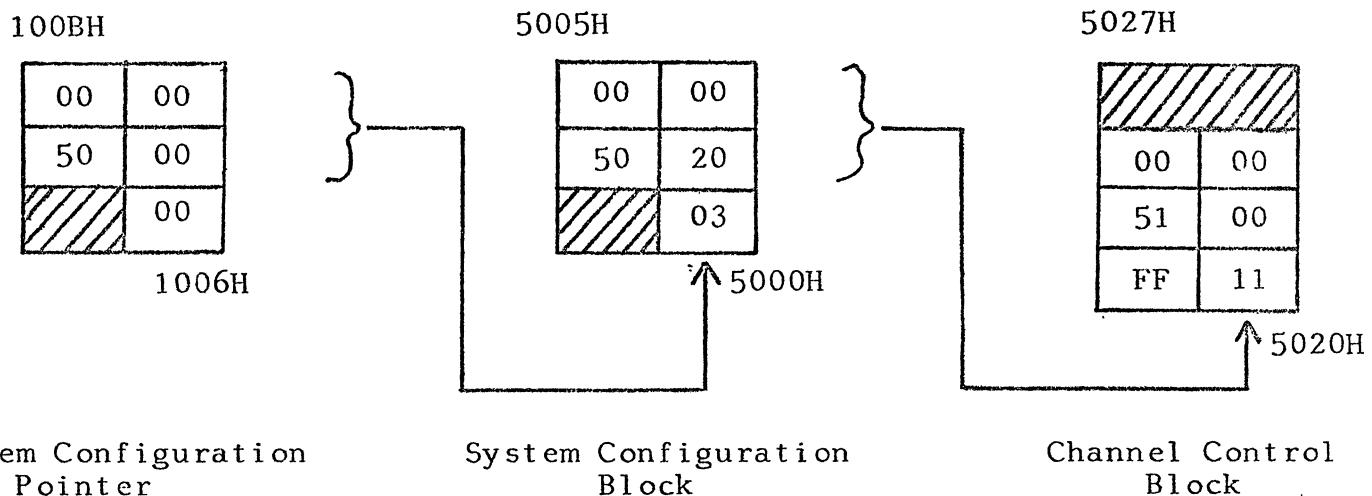
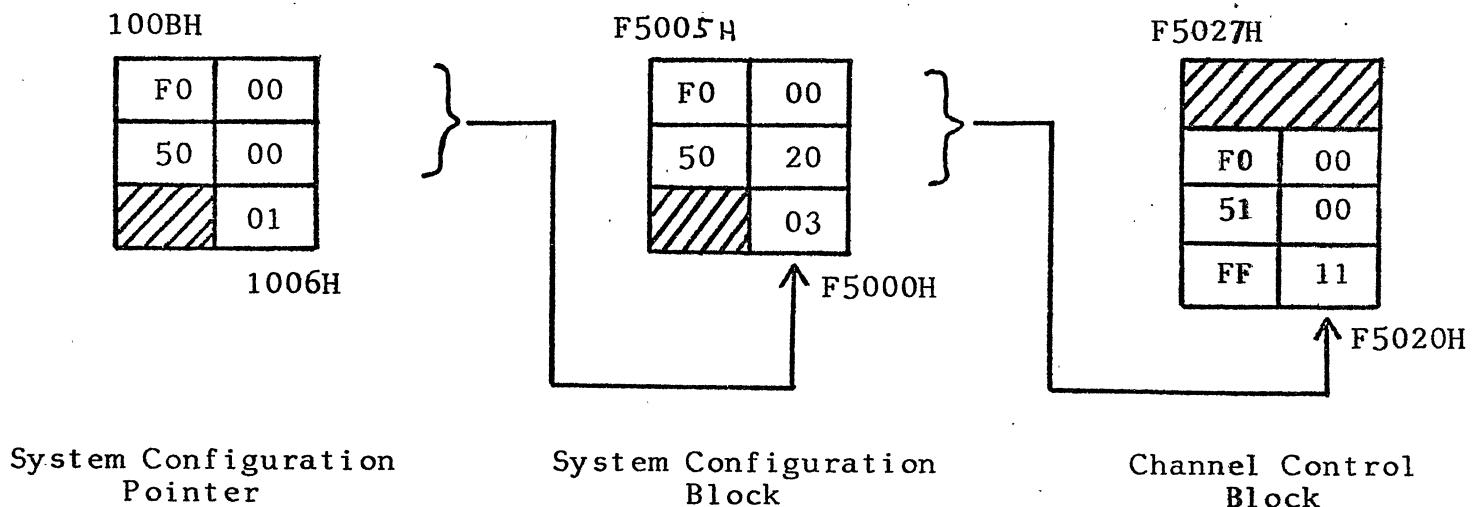

Fig. 3-1 Initialization Blocks for an 8-bit system.
Fig. 3-2 Initialization Blocks for a 16-bit system.
Before the TAPEMASTER can execute commands properly, it must be initialized. Initialization is the procedure which assigns permanent values to some of the programmable addresses associated with command execution. It involves setting up three short blocks of data in system memory, and then issuing a Channel Attention to the TAPEMASTER. The Initialization Blocks for a host system with an 8-bit data bus are shown in Fig. 3-1.
At the completion of the Initialization process, using the example values of Fig. 3-1, the following have been accomplished:
- A. The location of the Channel Control Word (CCW) is fixed at 05020H (F5020H in Fig. 3-2).
Shown in Table 3-1 is an 8080/8085 program to execute the Initialization sequence of Fig. 3-1.
The Initialization Blocks for a host system with a 16-bit data bus are shown in Fig. 3-2. These blocks are similar to Fig. 3-1, except that a 16-bit system is specified ($01006H=01$). This example also indicates how the blocks may be located beyond the 64K byte range by specifying non-zero values in the Pointer Bases.